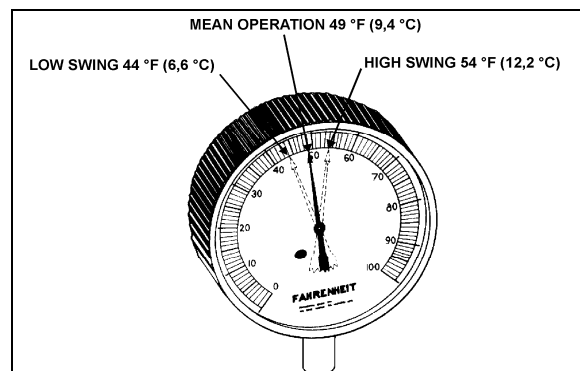

FIGURE 35: HIGH & LOW SWING TEMPERATURE AT REMOTE BULB 22047
6. Check approximately 5 readings of pressure at 2-minute intervals and convert to temperature using the temperatures & pressures table (page 35). Likewise check the temperature reading at the remote bulb at the same 2-minute intervals and record the low and high swing readings of the needle (refer to Fig. 35).
Example of readings taken at fig. 35: